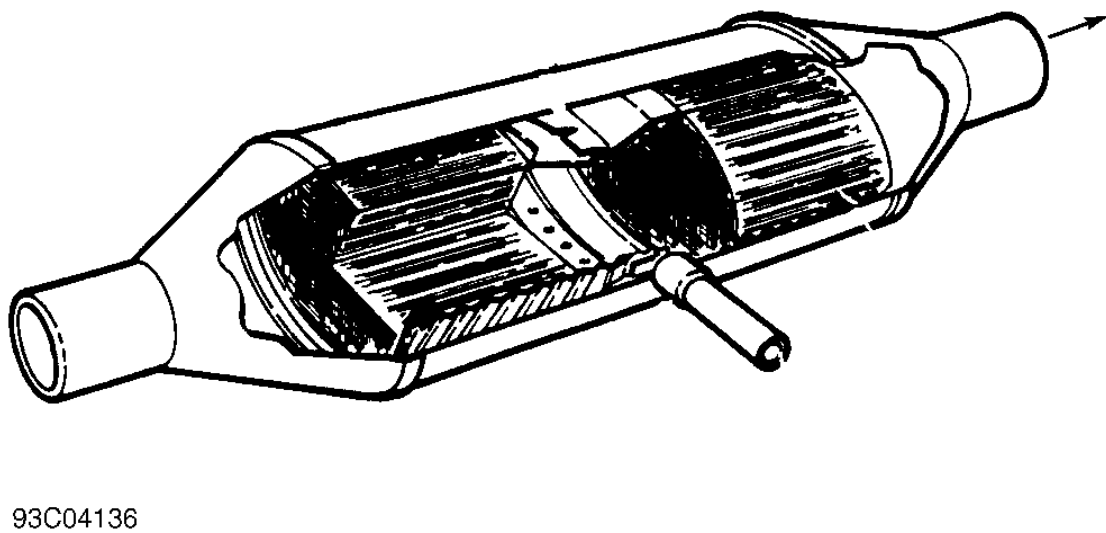

Fig. 10: Typical Three-Way + Oxidation Catalytic Converter
This system contains a TWC converter and an OC converter in a common housing, separated by a small air space. See Fig. 10 . The 2 catalysts are referred to as catalyst beds. Exhaust gases pass through the TWC first. The TWC bed performs the same function as it would as a separate device, reducing all 3 emissions. As exhaust gases leave the bed, they pass through the air space and into the second (OC) converter catalyst bed.